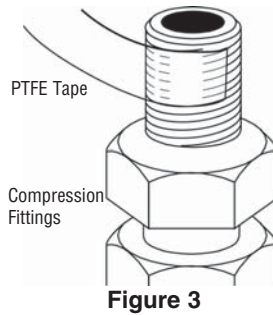

Figure 3
3. Wrap a 3" (7.6 cm) long piece of PTFE tape to the right (clockwise) around the 3/8" MNTF threads of the fittings. Wrap tightly so that it conforms to the threads of the fitting and overlaps about 1/2". (Figure 3) **Do not wrap 3/8" or 1/2" compression threads with tape.**